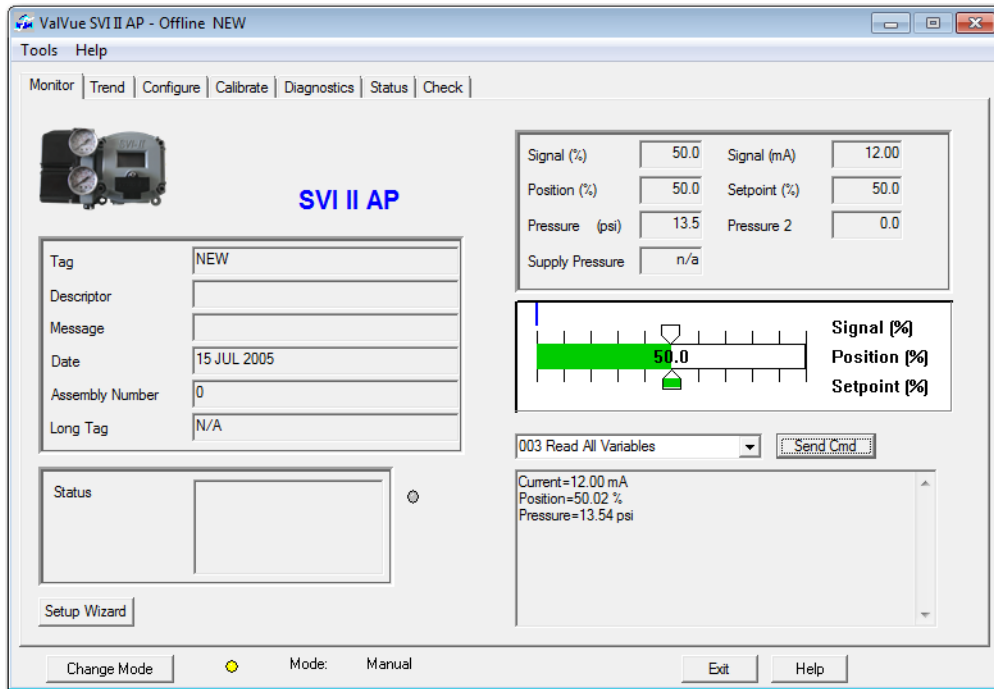

Figure 55 Send Command Results Displayed
3. Read the results below (Figure 55).